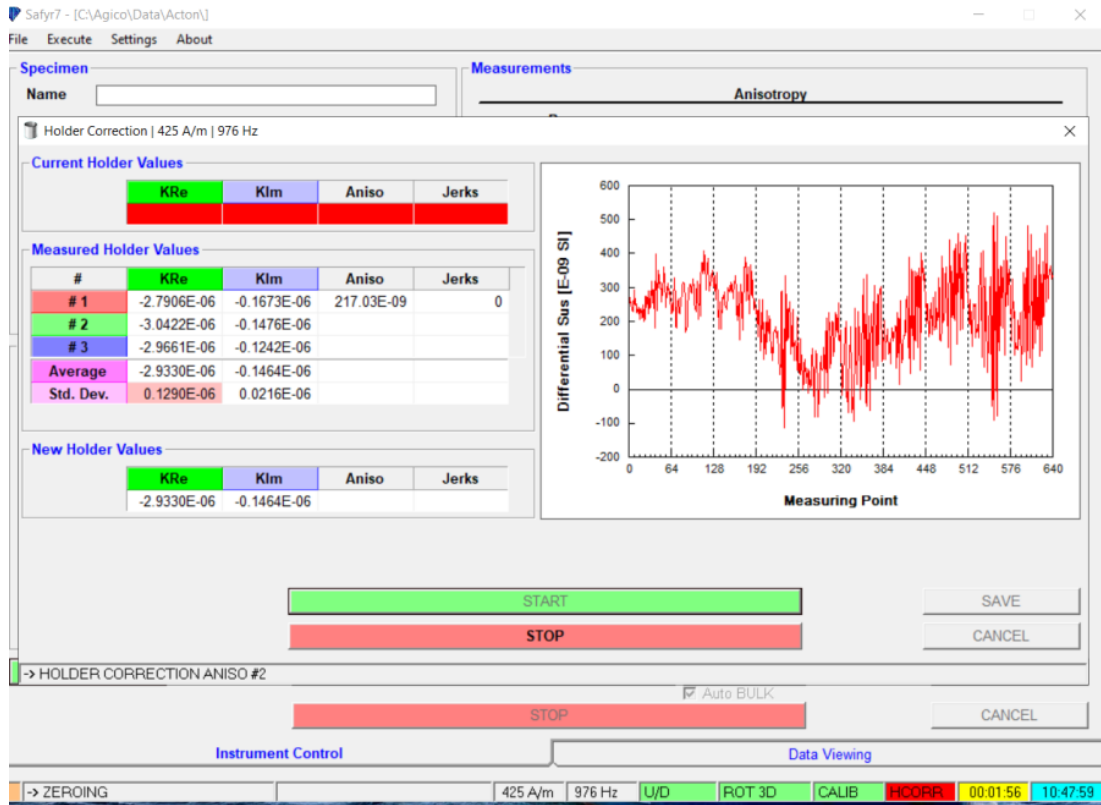

Figure 22: 3D Holder Correction Window during measurement
a. Holder will lower into MFK2 pick up unit and anisotropy will be measured automatically in 3 positions (*Figure 22*).